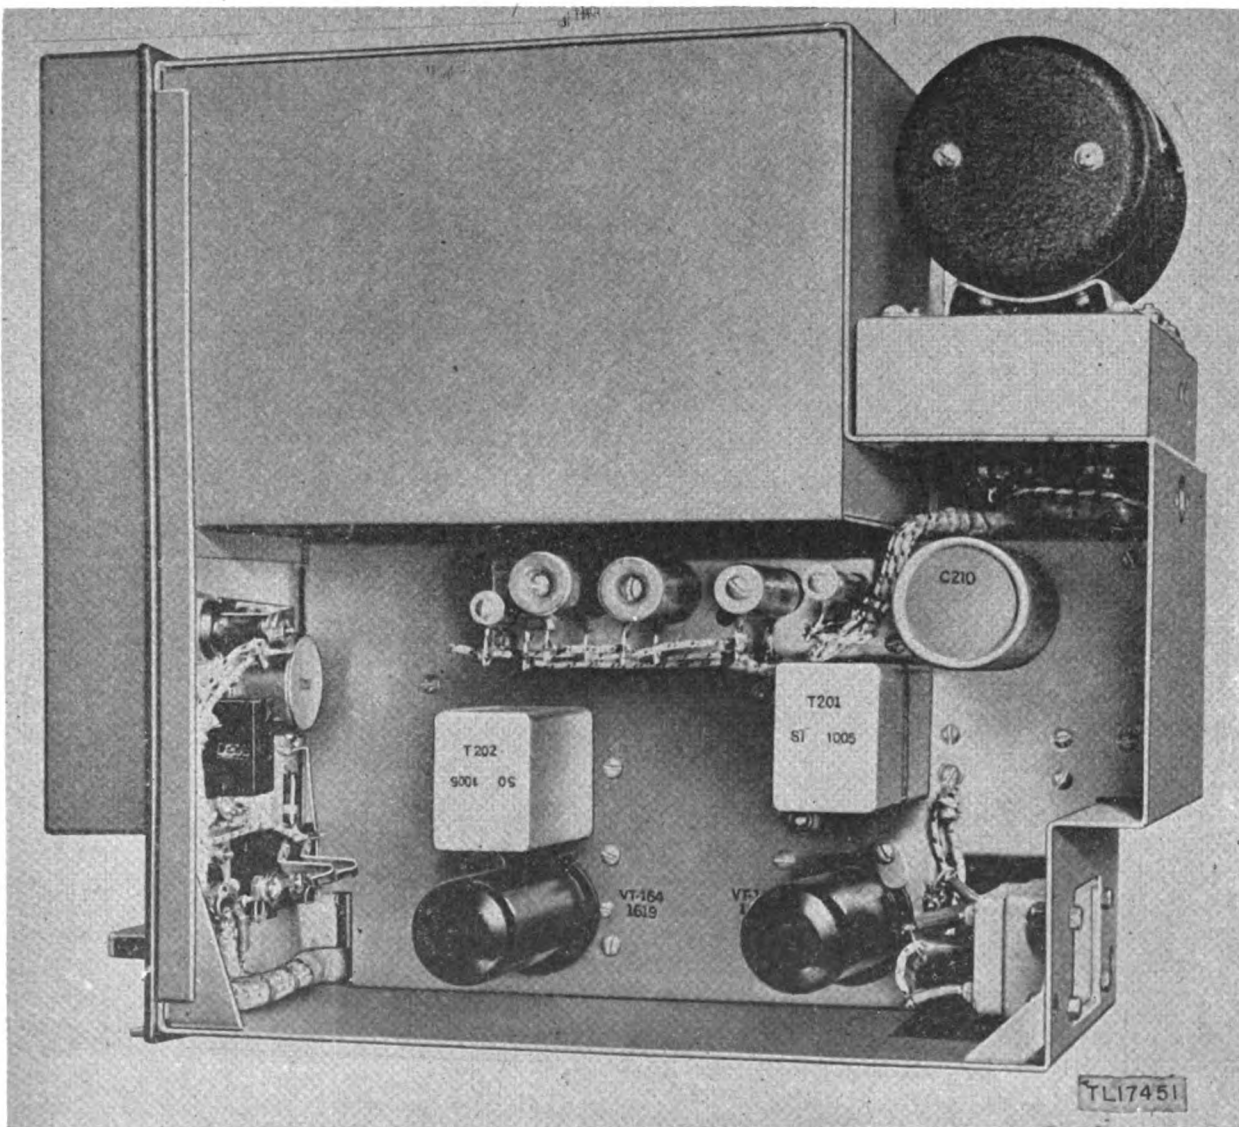

Figure 5. Interphone Amplifier BC-605(*), right-side interior view.
b. Release each tube (fig. 5) for removal by loosening the screw in the locking tab at the base, and push the locking tab aside. Remove the tube, either by pulling it straight out from its socket or by using a tube extractor.
(11) Remove the cardboard cover of the electrolytic capacitor (C210) (fig. 5), scrape corrosion from the can, and clean the can with dry-cleaning solvent (SD), using the toothbrush. Check for pinholes or other holes in the can; if any are found, replace the capacitor. Immediately after cleaning, lacquer the entire can, allow it to dry, and replace the cardboard cover over the capacitor.
(12) Make sure that all parts of the chassis assembly are thoroughly clean and no hard deposits remain. Then apply the compressed air stream to remove any remaining dirt or foreign matter.
(13) Inspect for broken parts. Look and smell for evidence of excessive heating as indicated by burned resistors or melted wax. If such defects are found, locate the causes by reference to section IV. Replace faulty parts, referring to section IX when special procedures are necessary.
Note. Each of the *original* tubes found to be good must be returned to the socket from which it was taken. Tighten the tube locking tab at the base of each tube with a screwdriver (fig. 5).